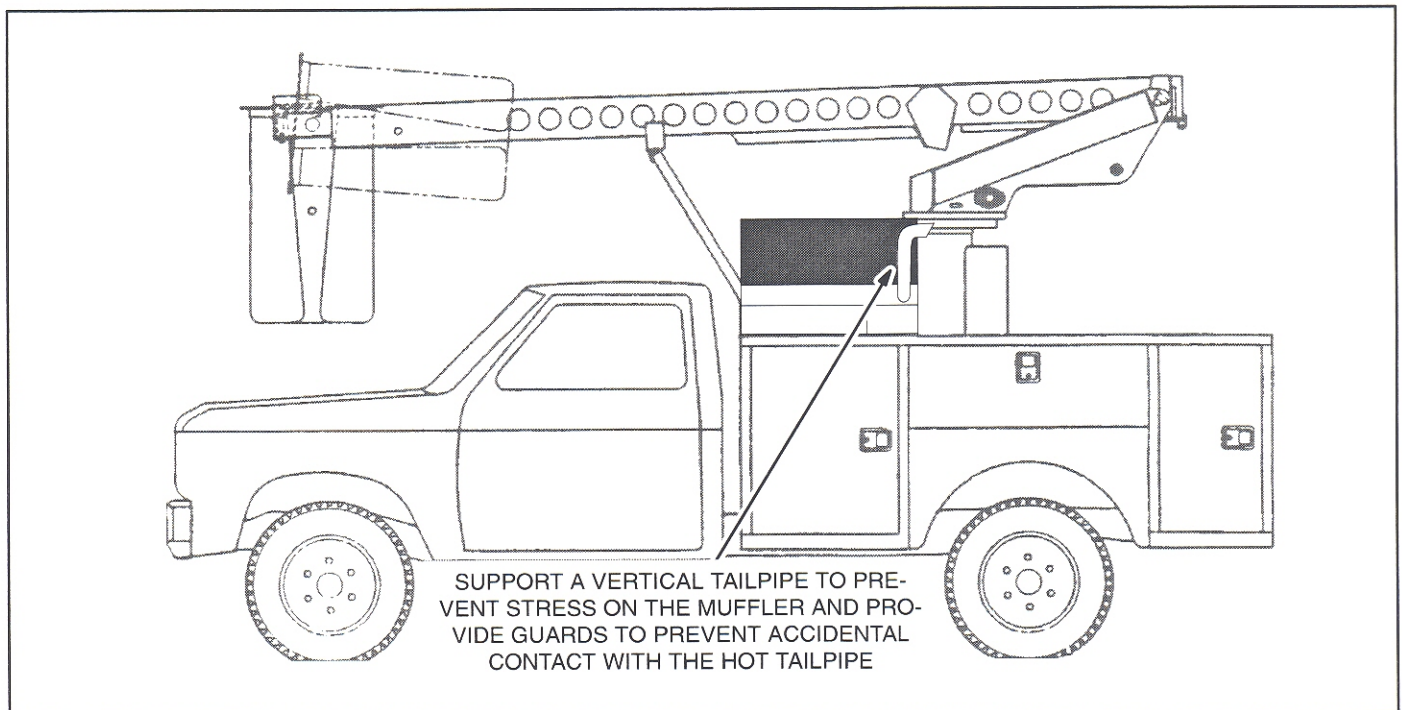

FIGURE 10. VERTICAL TAILPIPE
9. To keep rain out, terminate a vertical tailpipe (Figure 10) with a rain cap or bend that points towards the rear of the vehicle. Provide guards as necessary to prevent accidental contact with the hot tailpipe during normal use of the vehicle.